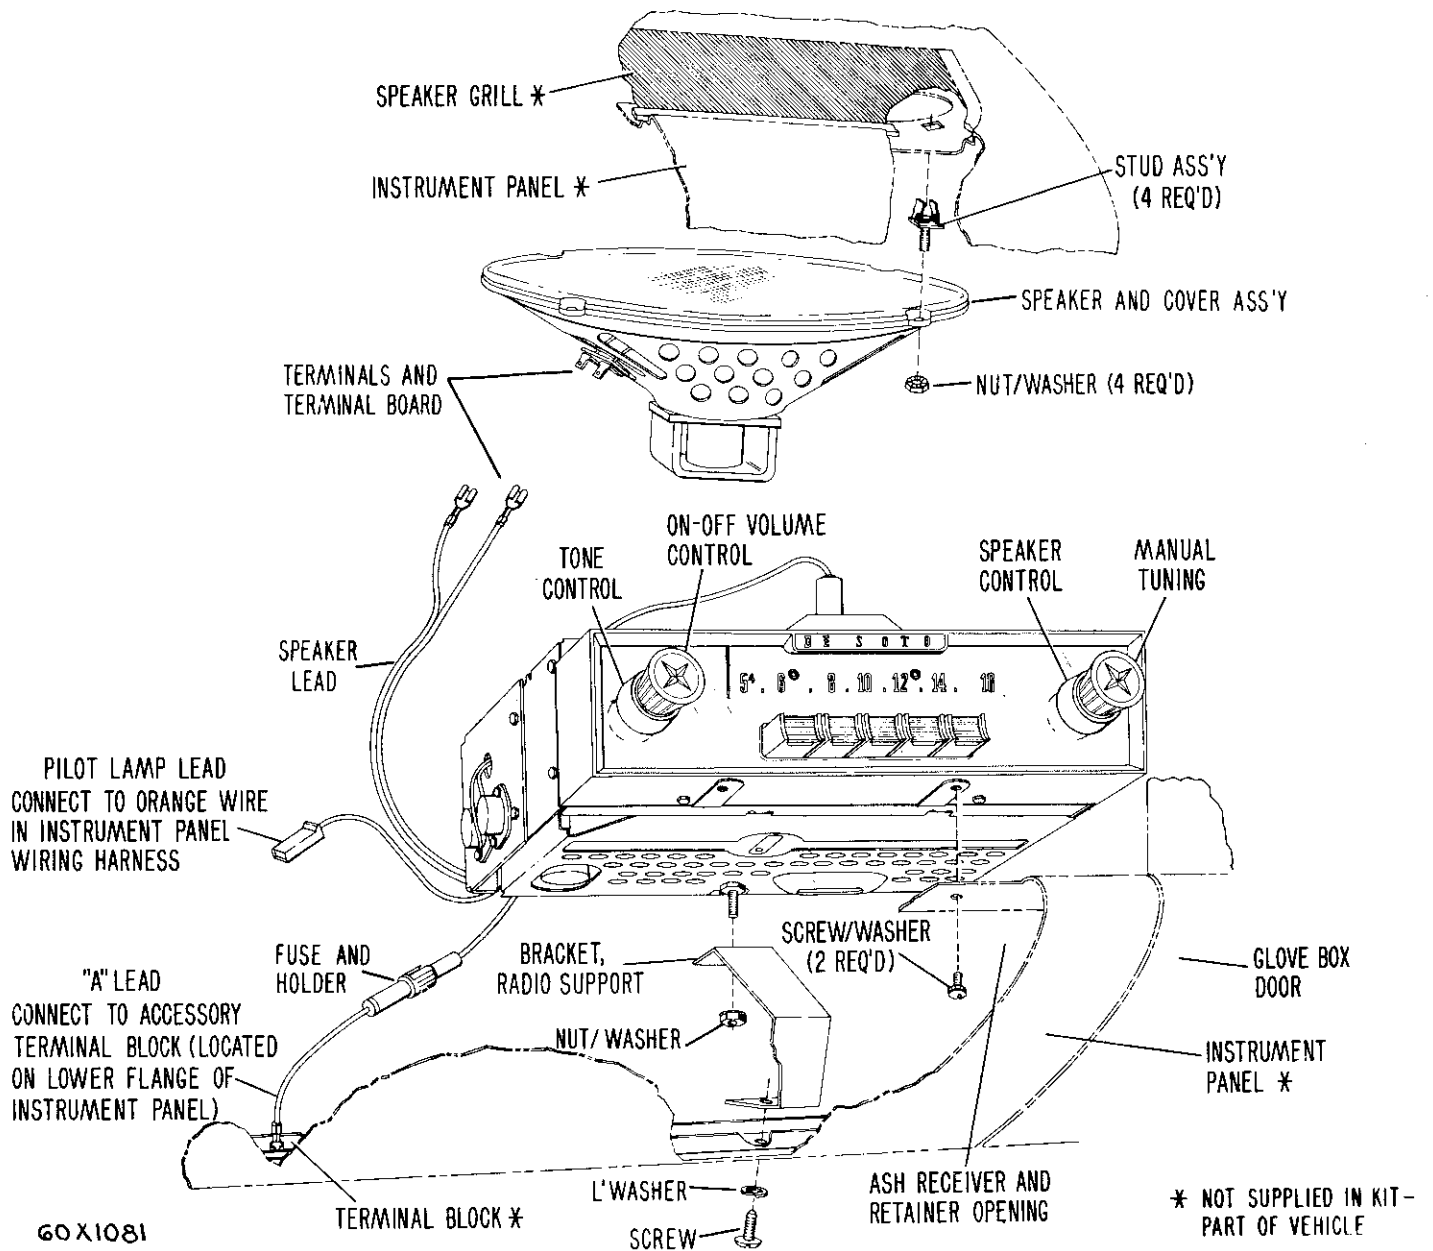
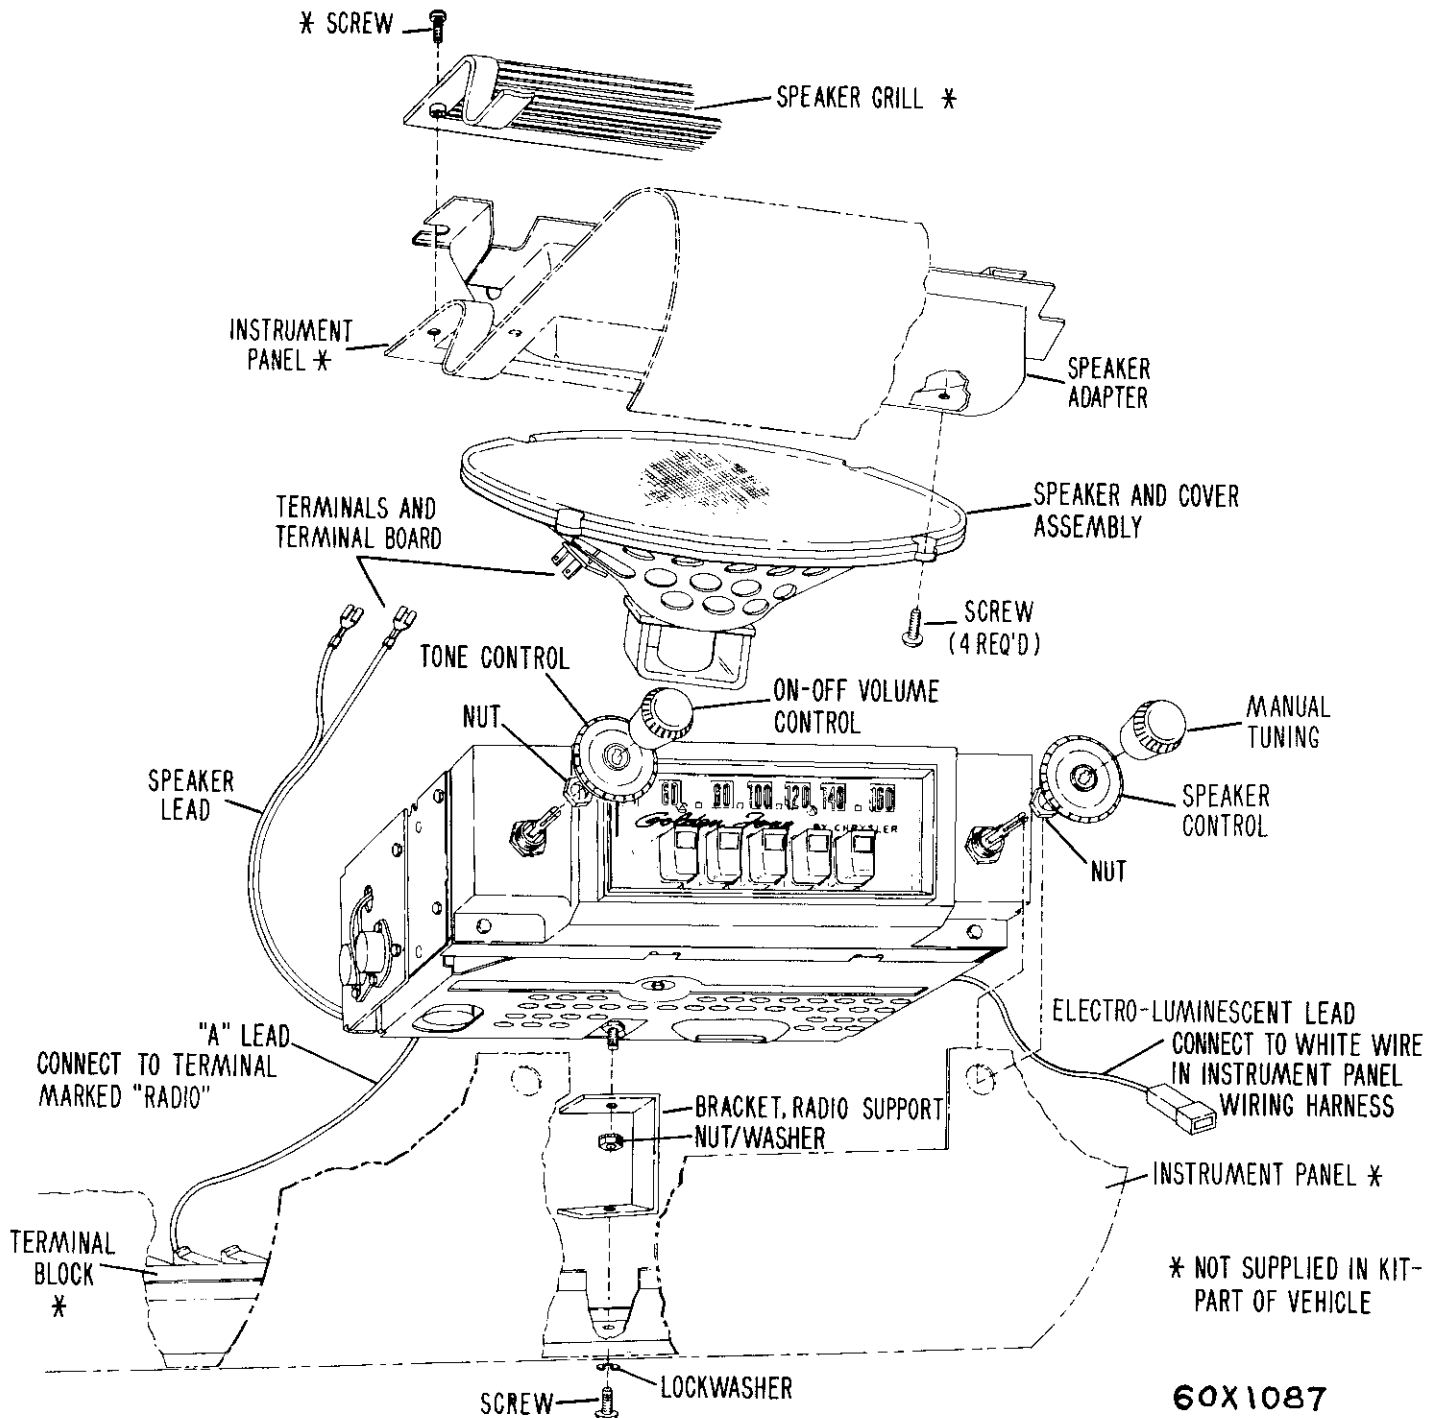

Fig. 2—Radio Installation Model 304
Fig. 4—Radio Installation Model 303
Chrysler vehicles are equipped with hybrid-type radio models 303 and 402 (Fig. 4). Imperial vehicles are equipped with radio model 403 (Fig. 5) which is electrically identical to model 402. The radio receivers are featuring a two transistor push-pull audio output, a transistor drive stage and Panelescent set lighting. The model 303 is a push button type radio with continuously variable tone and rear speaker control. Radio models 402 and 403 are search tuned radios with a step position tone and rear speaker control.
The radio is attached to the instrument panel with two mounting nuts and with a support bracket at the rear of the set (Figs. 4 and 5).
**a. Radio Removal (DeSoto Vehicles) (With or Without Air Conditioning) (Fig. 2)**
- (1) Disconnect battery.
- (2) Disconnect antenna leading "A" lead, light lead, front and rear speaker leads.
- (3) Remove ash tray assembly to gain access to mounting bolts.
- (4) Remove mounting bolts.
- (5) Remove both radio-to-dash support brackets.
- (6) Withdraw the radio assembly from underside of instrument panel.
**b. Radio Removal (Chrysler Vehicles Only) (With Air Conditioning) (Figs. 4 and 5)**